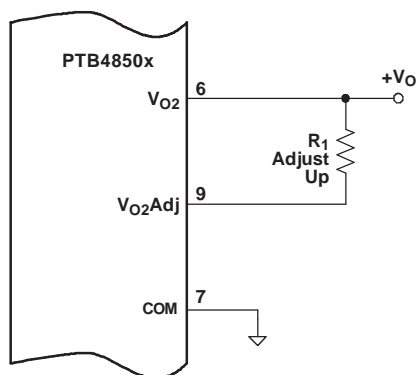

Figure 17. Adjust Up
**Adjust Up:** To increase the magnitude of both output voltages, place a resistor  $R_1$  between  $V_{O2}$  Adj (pin 9) and the  $V_{O2}$  (pin 6) voltage rail; see Figure 17.